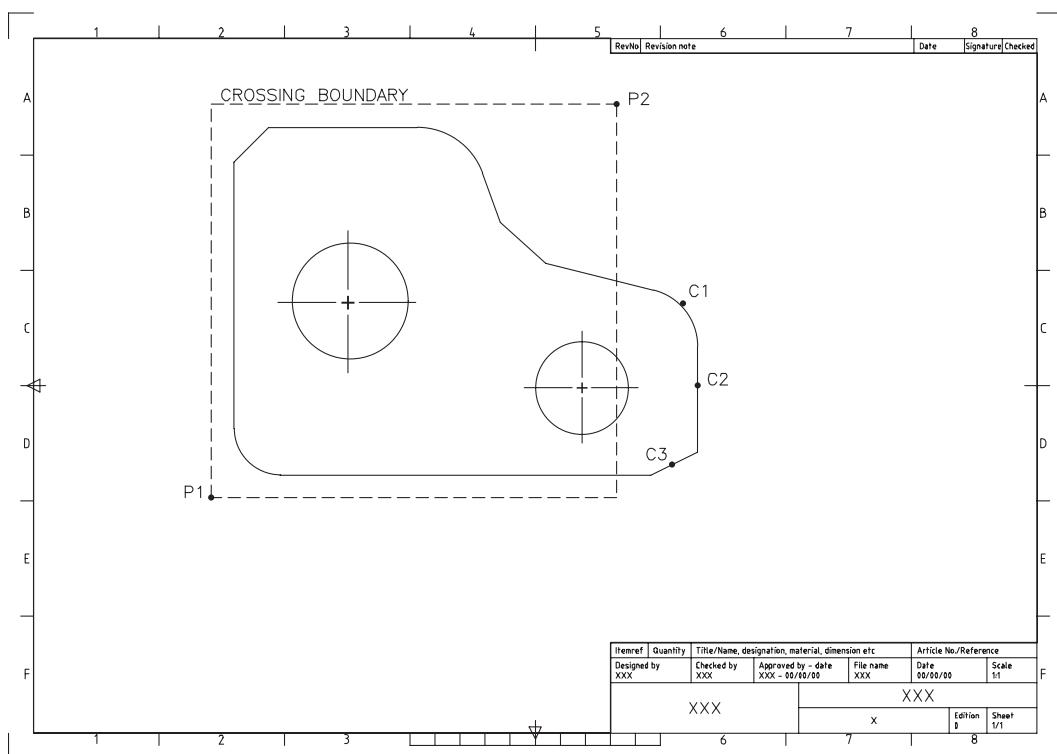

Figure 15.1 WORKDRG with selection information for the COPY command.
- 4 Select the **COPY icon** from the Modify toolbar, refer to Figure 15.1 and: